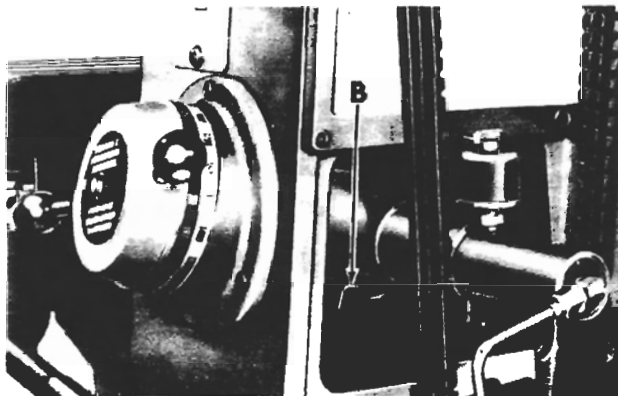

Figure 54
5. Turn variable dial to lowest speed and lock in place with pin (B, fig. 54).